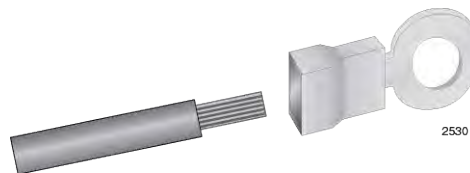

Figure 128. Attaching the Stranded Grounding Wire to the Grounding Terminal
2. Insert the grounding wire into the grounding terminal provided with the power supply and use a crimping tool to secure it to the grounding terminal. See Figure 128.